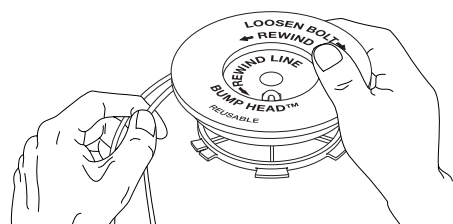

Fig. 36
- Wind the lines in tight even layers, onto the reel (Fig. 36). Wind the line in the direction indicated on the inner reel. Place your index finger between the two lines to stop the lines from overlapping. Do not overlap the ends of the line. Proceed to step 11.